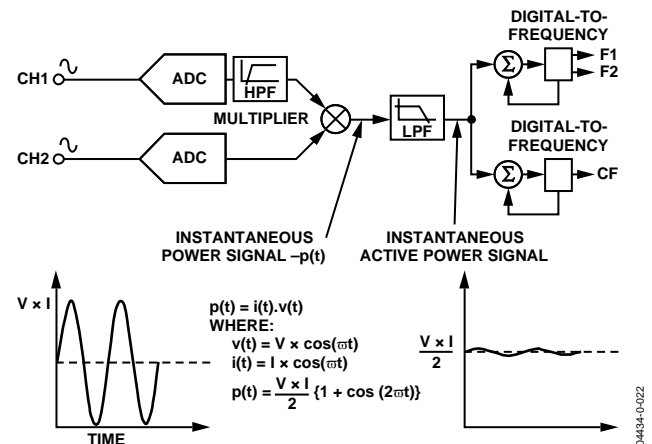

Figure 17. Signal Processing Block Diagram
The active power calculation is derived from the instantaneous power signal. The instantaneous power signal is generated by a direct multiplication of the current and voltage signals. To extract the active power component (dc component), the instantaneous power signal is low-pass filtered. Figure 17 illustrates the instantaneous active power signal and shows how the active power information can be extracted by low-pass filtering the instantaneous power signal. This scheme correctly calculates active power for nonsinusoidal current and voltage waveforms at all power factors. All signal processing is carried out in the digital domain for superior stability over temperature and time.
The pulse output calibration frequency (CF) is intended for use during calibration. The output pulse rate on CF can be up to 2048 times the pulse rate on F1 and F2. The lower the F1-4 frequency selected, the higher the CF scaling. Table 6 shows how the two frequencies are related, depending on the states of the logic inputs S0, S1, and SCF. Because of its relatively high pulse rate, the frequency at this logic output is proportional to the instantaneous active power. As with F1 and F2, the frequency is derived from the output of the low-pass filter after multiplication. However, because the output frequency is high, this active power information is accumulated over a much shorter time. Therefore, less averaging is carried out in the digital-to-frequency conversion. With much less averaging of the active power signal, the CF output is much more responsive to power fluctuations (see Figure 17).